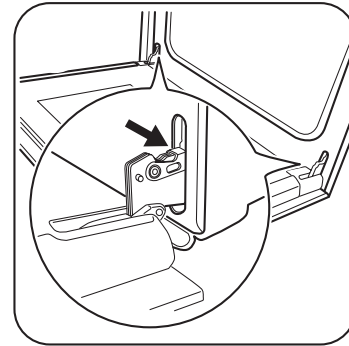

Figure 28: Door hinge location
1. Open the door fully, horizontal with the floor, and hold the two door hinges (Figure 28).
3. Fully open the oven door, horizontal with floor (Figure 28).